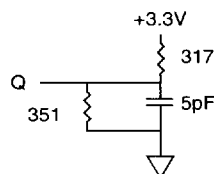

Fig. 2 OUTPUT LOAD EQUIVALENT
6. Output loading is specified with C_L = 5pF as in Fig. 2. Transition is measured ±500mV from steady state voltage.
11. The load used for V_{OH}, V_{OL} testing is shown in Fig. 2. AC load current is higher than the shown DC values. AC I/O curves are available upon request.